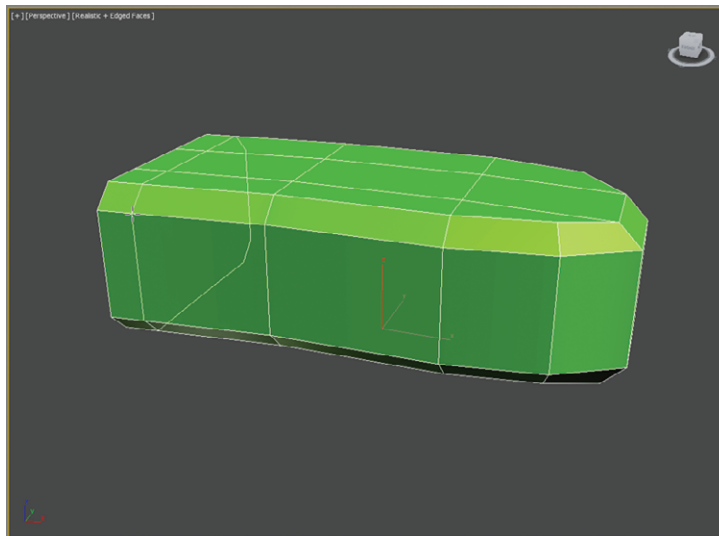

FIGURE 8.28 Use SwiftLoop to create an edge at the wrist.
8. Use SwiftLoop to create an edge up from the wrist, as shown in Figure 8.28.